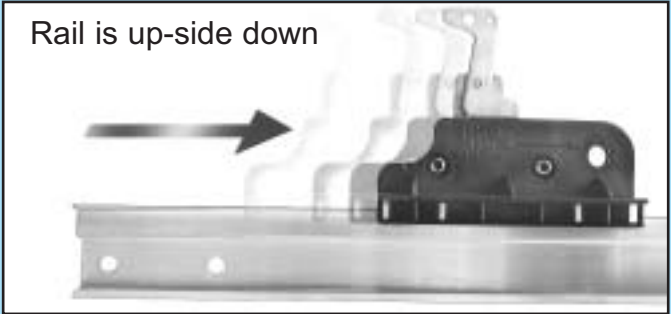

FIG. 1-5 Align arrow.
- Slide carriage into rail at **power head end** (**Fig. 1-5**).